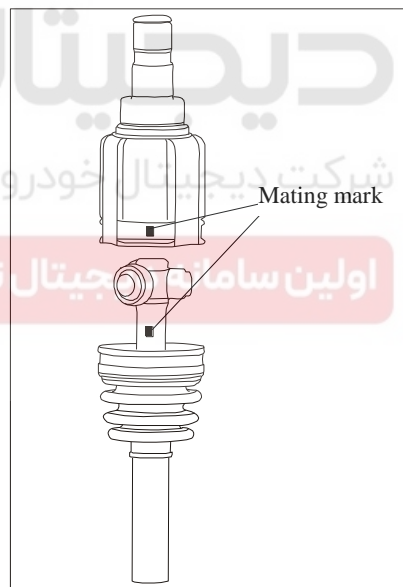

Figure 4-83 Matching Marks
(3) If there is any crack, breakage or obvious deformation exists on drive shaft, the drive shaft shall be replaced immediately; if oil seal journal on drive shaft is excessively worn or has obvious groove, the drive shaft shall be replaced. If the drive shaft goes wrong or does not work normally, the drive shaft assembly shall be replaced.
(4) Drive shaft is a dynamic balance component which has passed strict dynamic balance test before leaving the factory. Unless needed, it is prohibited to disassemble the drive shaft. If it is necessary to disassemble the drive shaft, make mating mark on drive shaft with paint (as shown in Figure 4-83), and be sure not to leave mark by using punch.